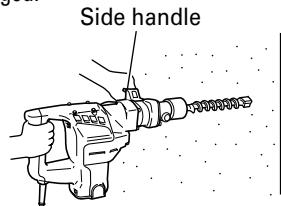

Fig. 4
**1. How to drill holes (Fig. 4)**